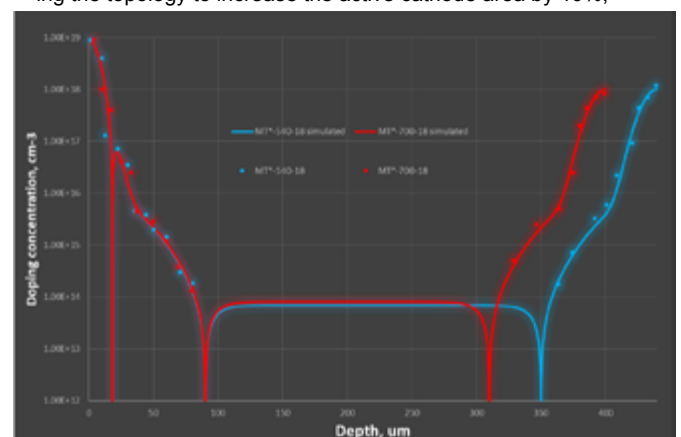

Figure 3: Calculated diffusion profiles of a standard MT*-540-18-A2 and an optimized MT*-700-18-A2 thyristor module in comparison with experimental data
- Reducing the thickness of the diffusion element and optimizing the diffusion profile (Figure 3 shows data on the calculated and experimental values).